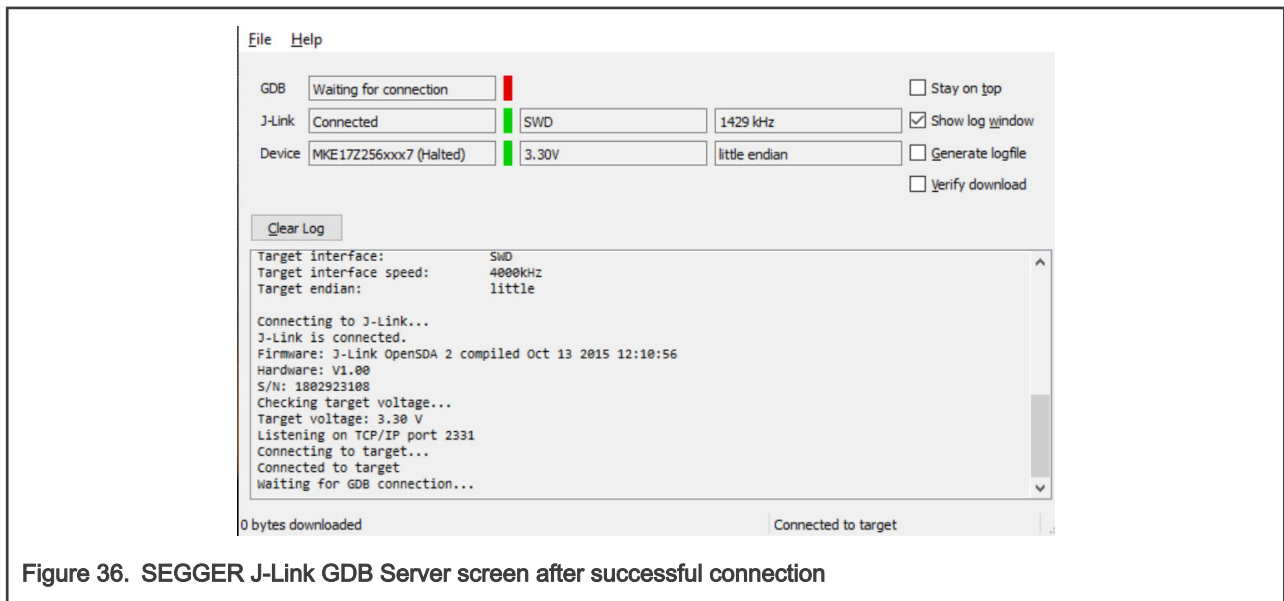

Figure 36. SEGGER J-Link GDB Server screen after successful connection
- After it is connected, the screen looks like Figure 36.